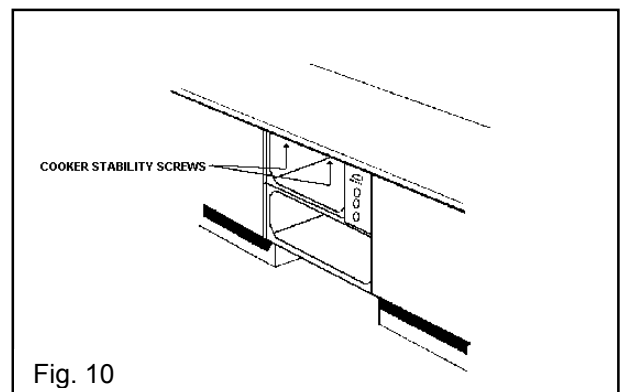

Fig. 10
- Centralise and fix the appliance to the underside of the worktop using the two stability screws provided, in the position indicated in Fig.10.